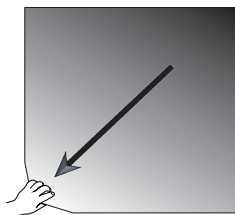

Figure 105: Adhesive Mat: Lift and Pull Mat Away to Remove
1. To release the adhesive mat, lift it on one side and pull it slowly away from the platform, as shown in Figure 105.